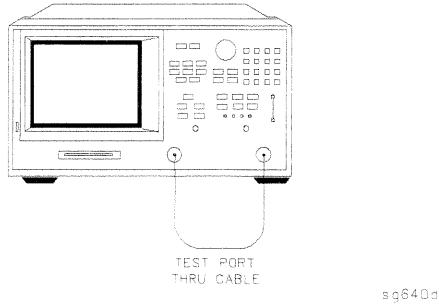

Figure 8-1. Equipment Setup
1. Connect the equipment as shown in Figure 8-1. (The thru cable is HP part number 8120-4779.)